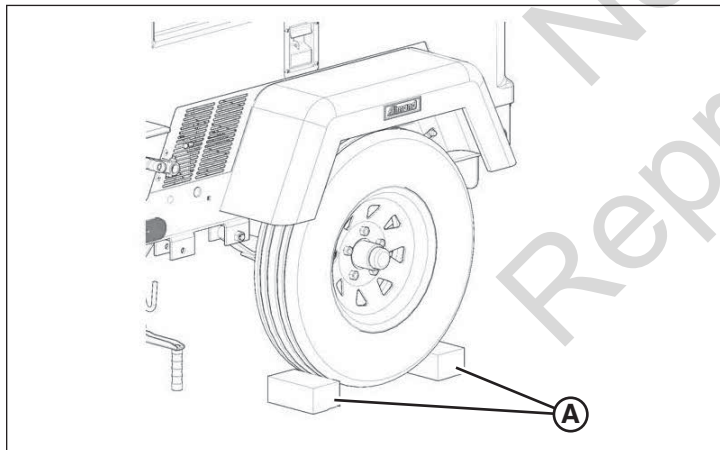

Figure 16
2. Block each wheel on each side with a suitable wheel chock (A, Figure 16).